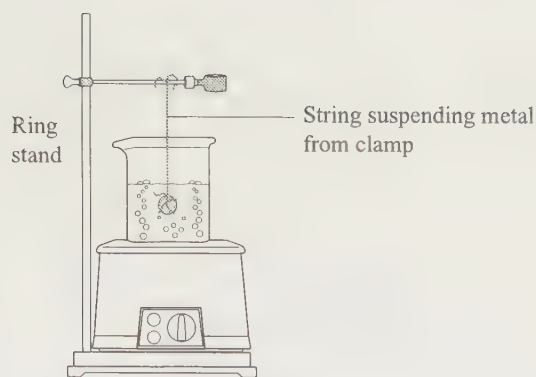

FIGURE 1
5. Tie a string around the metal sample and suspend it in the beaker of boiling water as shown in Figure 1.